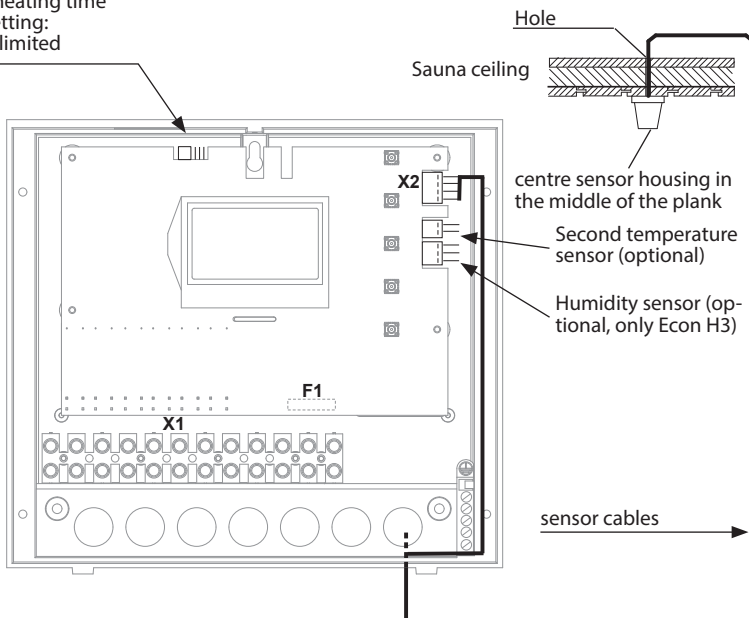

Fig. 11
5. Lead the sensor cables through the right-hand cable intake into the control unit. Lay the sensor cables inside the control unit as shown in Fig. 11. Connect the sensor cables to the board as shown in Fig. 12. In order to do this, pull the plug **X2** from the circuit board and plug it back in after the connection of the sensor.